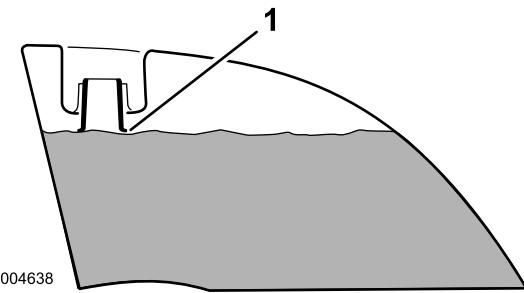

Figure 12
4. Add fuel to both fuel tanks, until the level is even with the bottom of the filler neck (Figure 12). **Do not over fill the fuel tanks.**